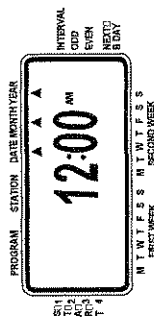

FIGURE 3: LCD Display with Surrounding Information
- Press and hold the **+** button to advance the clock to the correct time of day. Use the **-** button to go in reverse [See Figure 3]. When the correct time of day is reached, press the **ENTER** button to lock in the time.